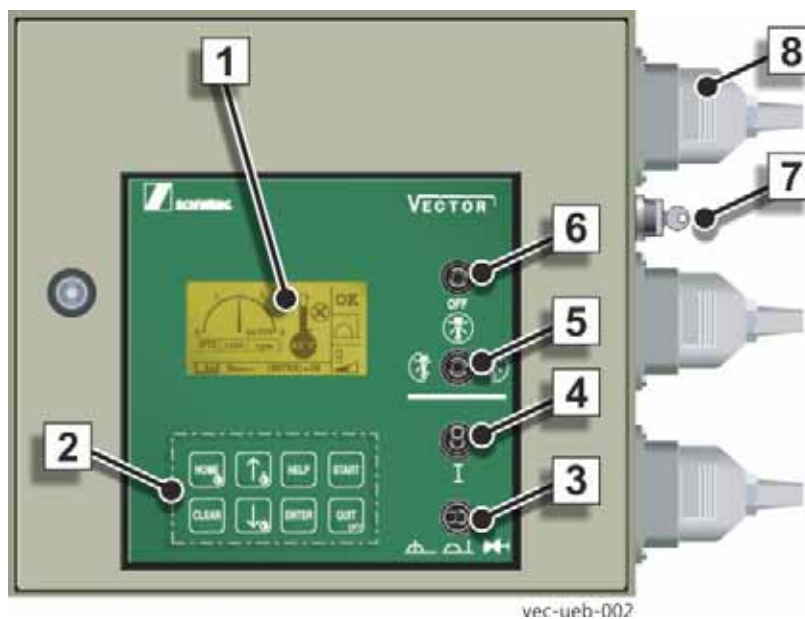

Fig. 161
Operating data and malfunctions that occur while using the local control unit are output on the display of the VECTOR control system (1) (**Fig. 161**).
If not all of the switches are in the neutral position, the VECTOR control display (1) (**Fig. 161**) will output a corresponding error message and it will not be possible to change operating modes.